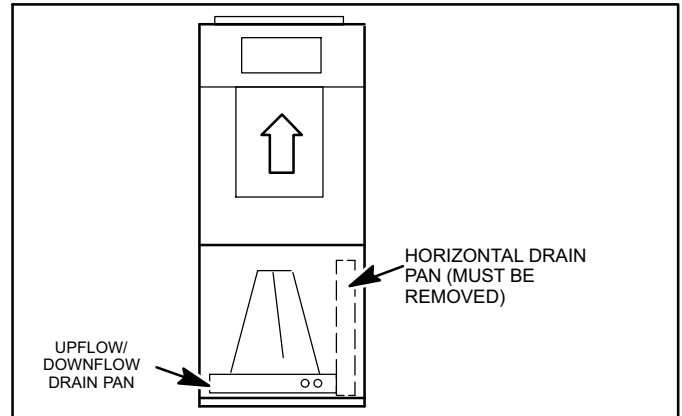

Figure 1. Upflow Configuration
2. After removing horizontal drain pan, place the unit in desired location. Set unit so that it is level. Connect return and supply air plenums as required using sheet metal screws as illustrated in Figure 1.